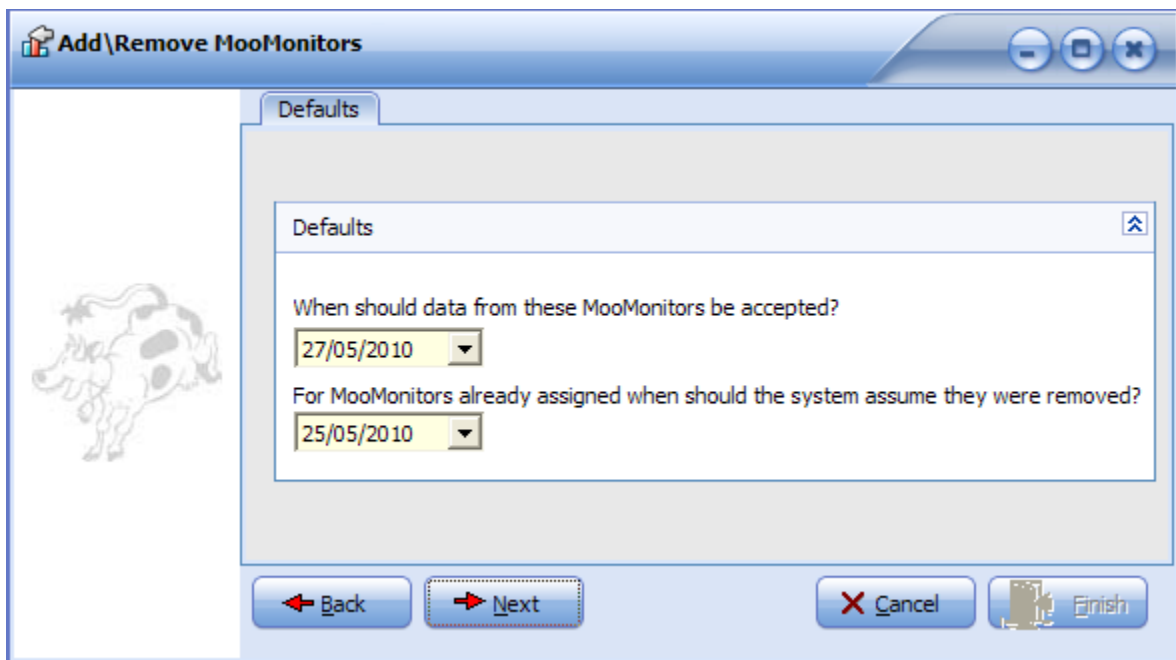

Figure 37 'Defaults' screen.
- d. The screen in Figure 37 below is displayed.